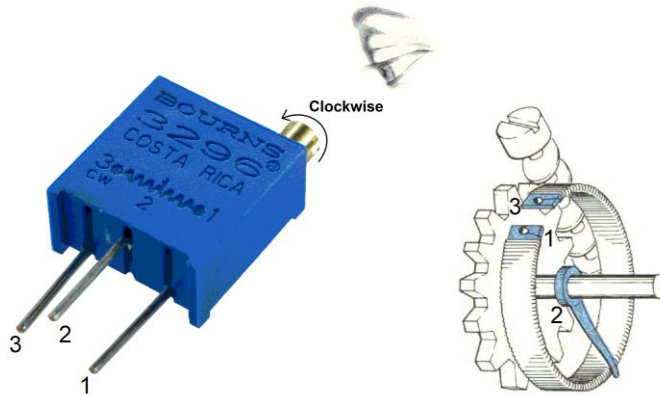

Figure 2: The internal structure of a 20-turn potentiometer.
Last week you soldered in a pair of 20-turn potentiometers, a 1k Ω and 100k Ω like that shown in the left side of Figure 2. Look closely at the notation imprinted on the surface of the potentiometer in Figure 2 and you will see the letters "CW" printed next to the number 3. This means that as you turn the brass adjustment screw in a ClockWise (CW) direction the center tap (terminal 2) moves closer to the left pin (terminal 3). This is accomplished using a worm drive mechanism; the brass